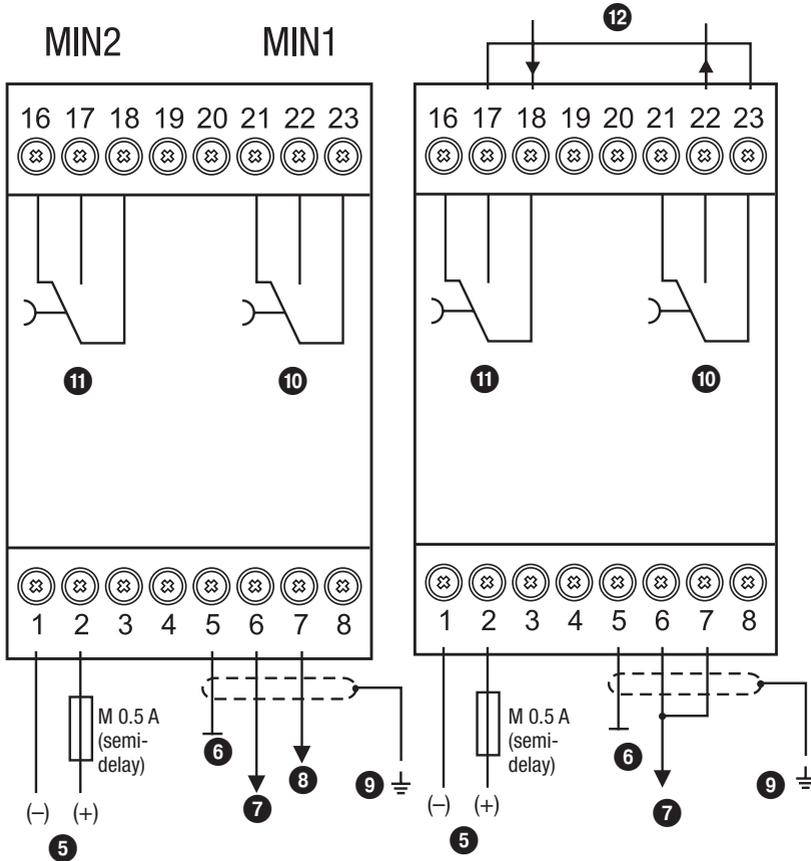

Fig. 3
Wire the upper terminal strip ① (terminals 16-18, 21-23) according to the desired switching functions. If only one electrode rod is used please connect the terminals 17 and 23 (safety circuit) and the terminals 6 and 7 with a wire link. **Fig. 3**
Wire terminal strip in accordance with the wiring diagram. **Fig. 3.**